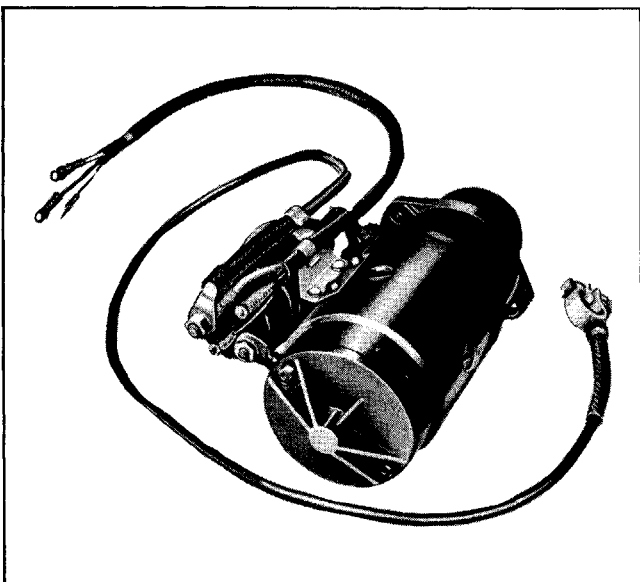

Fig. 12-37 Proper Assembly of Wires and Cable to Solenoid
1. Connect battery cable and solenoid wires to solenoid and bend clamp over cable as shown in Fig. 12-37. **NOTE:** Connect yellow wire to battery cable terminal of solenoid, black wire to terminal marked "R" and purple wire to terminal marked "S".